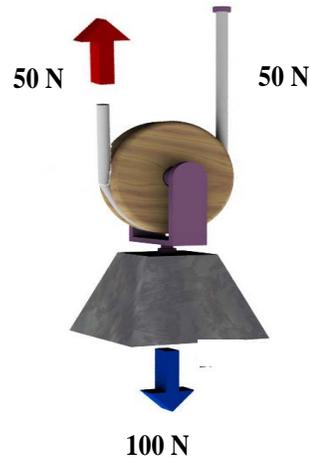

Figure 4.7: Movable pulley.
- Effort needed **equals half** the load which needs to be lifted Figure 4.7 shows that 50 N are needed to lift a weight of 100 N.